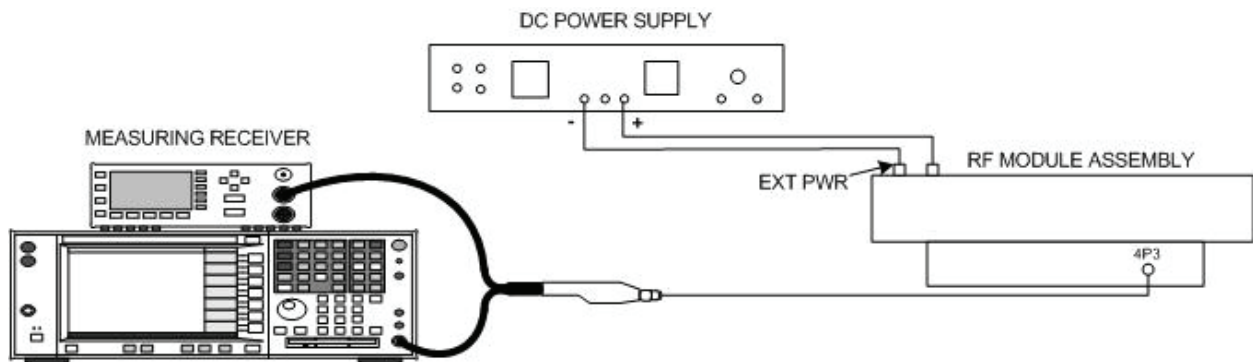

Figure 5. Receiver frequency - equipment setup.
- (1) Connect dc power supply as shown in figure 5.
- (2) Adjust dc power supply controls for a multimeter indication between 12.5 and 13.5 V dc.
- (3) Perform (4) below to install the calibration antenna No. 1 (243.0 MHz).
- (4) Perform (a) through (e) to install calibration antennas:
- (c) Set load carriage assembly to value recorded in **9 a** (13) above.
- (5) Set **RADIO SELECT** switch to **PRC-90 (243.0)**.
- (6) Set **REC TEST/XMIT TEST** switch to **REC TEST** position.
- (7) Disconnect RF cable from 4P3 (fig. 5).
- (8) Set the measuring receiver to measure power. Zero and calibrate measuring receiver sensor module. Set measuring receiver to measure frequency.
- (9) Connect equipment as shown in figure 5.
- (10) Press and hold **REC TEST PRESS** button. Measuring receiver indication will be between 242.997 and 243.003 MHz; if not perform **b (1)** below.
- (11) Set **RADIO SELECT** switch to **PRC-90 (282.8)**.
- (12) Install calibration antenna No. 2 (282.8 MHz) on the antenna plate assembly as described in (4) (a) through (e) above.
- (13) Press and hold **REC TEST PRESS** button. Measuring receiver indication will be between 282.796 and 282.804 MHz; if not, perform **b (2)** below.
- (14) Disconnect measuring receiver power sensor from 4P3 (fig. 5) and connect RF cable to 4P3 (fig. 5).
- (15) Set **RADIO SELECT** switch to **PRC-90 (243.0)**.
- (16) Install calibration antenna No. 1 (243.0 MHz) on the antenna place assembly as described in (4) (a) through (e) above.
- (17) Connect measuring receiver sensor module to calibration antenna No. 1 (243.0 MHz).
- (18) Press **REC TEST PRESS** button. Set measuring receiver to measure tuned RF level. Measuring receiver will indicate between -80.9 and -88.9 dBm, if not perform **b (3)** below.
- (19) Disconnect measuring receiver sensor module from calibration antenna No. 1 (243.0 MHz).
- (20) Repeat (4) and (6) above using calibration antenna No. 2 (282.8 MHz).
- (21) Set **RADIO SELECT** switch to **PRC-90 (282.8)**.
- (22) Connect measuring receiver sensor module to calibration antenna No. 2 (282.8 MHz).
- (23) Press **REC TEST PRESS** button. Set measuring receiver to measure tuned RF level. Measuring receiver will indicate between -80.9 and -88.9 dBm, if not perform **b (4)** below.
- (28) Disconnect measuring receiver sensor module from calibration antenna No. 2 (282.8 MHz).